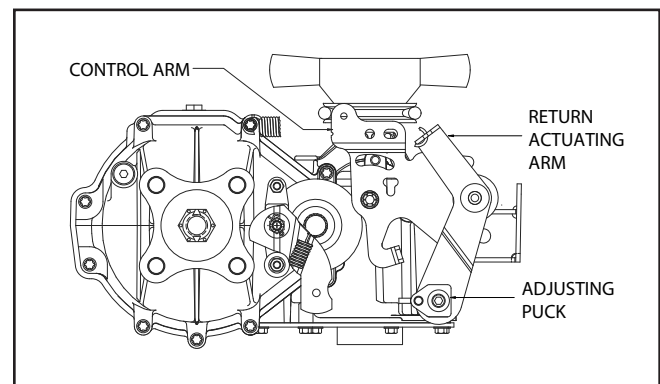

Figure 5. Return to Neutral, Foot Control
2. Remove the Original Equipment Manufacturer's (OEM's) control linkage at the control arm. Refer to Figure 5.
5. Stop the vehicle's engine. Adjust the OEM linkage according to the OEM manual. Re-check according to Step 3 and 4. Stop the vehicle engine. Refer to Figure 5.
6. Note the axle directional movement. Stop the vehicle engine. Loosen the adjusting puck screw until the puck can be rotated. Rotate the adjusting puck the opposite direction of the wheel rotation on the control linkage side in 5 degree increments. Tighten the adjusting puck screw. Refer to Table 5. Required Torque Values, Page 13. Recheck according to Step 3 and 4. Stop the vehicle engine. Adjust the OEM linkage according to the OEM manual. Recheck according to Step 3 and 4. Refer to Figure 5.